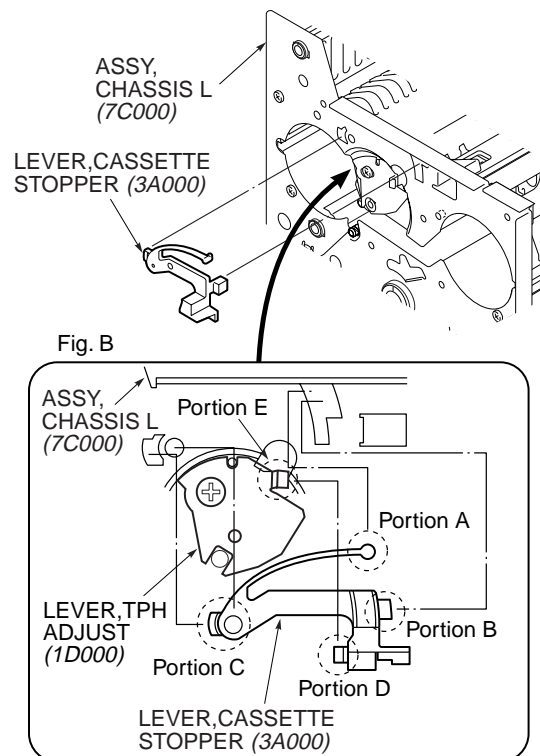

Fig. 3-1-2
- 4) Remove portion A on the “LEVER, CASSETTE STOPPER (3A000)” from hole on the “ASSY, CHASSIS L (7C000)” as shown in Fig. B of Fig. 3-1-2.
- 5) While rotating portion B on the “LEVER, CASSETTE STOPPER (3A000)” upper side, remove it from hole on the “ASSY, CHASSIS L (7C000)”. (Refer to Fig. 3-1-2.)
- 6) Pull portion C on the “LEVER, CASSETTE STOPPER (3A000)” out from hole on the “ASSY, CHASSIS L (7C000)” and remove the “LEVER, CASSETTE STOPPER (3A000)”. (Refer to Fig. 3-1-2.)
2. Place portion D on the “LEVER, CASSETTE STOPPER (3A000)” in the reverse side of portion E on the “LEVER, TPH ADJUST (1D000)” as shown in Fig. B of Fig. 3-1-2, and verify that the “LEVER, TPH ADJUST (1D000)” moves smoothly by flicking it.